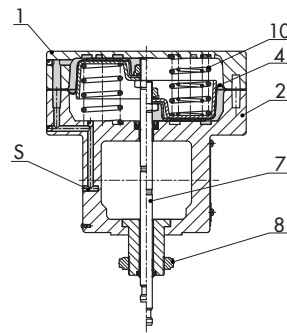

Fig. 8: Type 3277-5 for direct attachment of accessories (120 cm2)
- **Type 3277-5** · 120 cm2 actuator area, die-cast aluminum housing for direct attachment of accessories (Fig. 8), optionally with additional handwheel (Fig. 5)